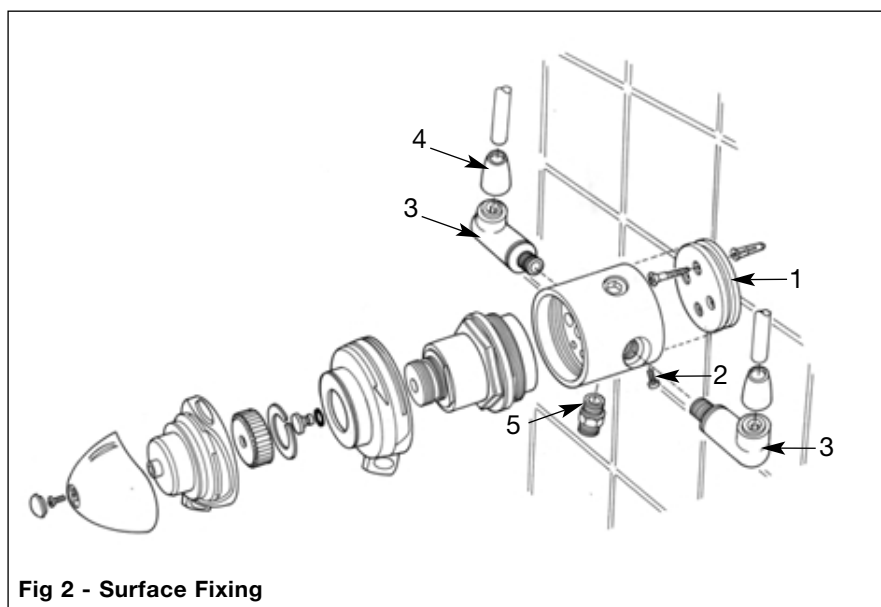

Fig 2 - Surface Fixing
Fitting Your Shower - Fig 2
3. Remove the two inlet elbows (1) and outlet connector (5) Fig 2 from the valve.
4. Place the valve into the recessed housing (2) and refit the two inlet elbows (1).
5. Secure the two grub screws (3).
6. Push the outlet connection (4) into position on the valve and secure with the two screws (5) provided.